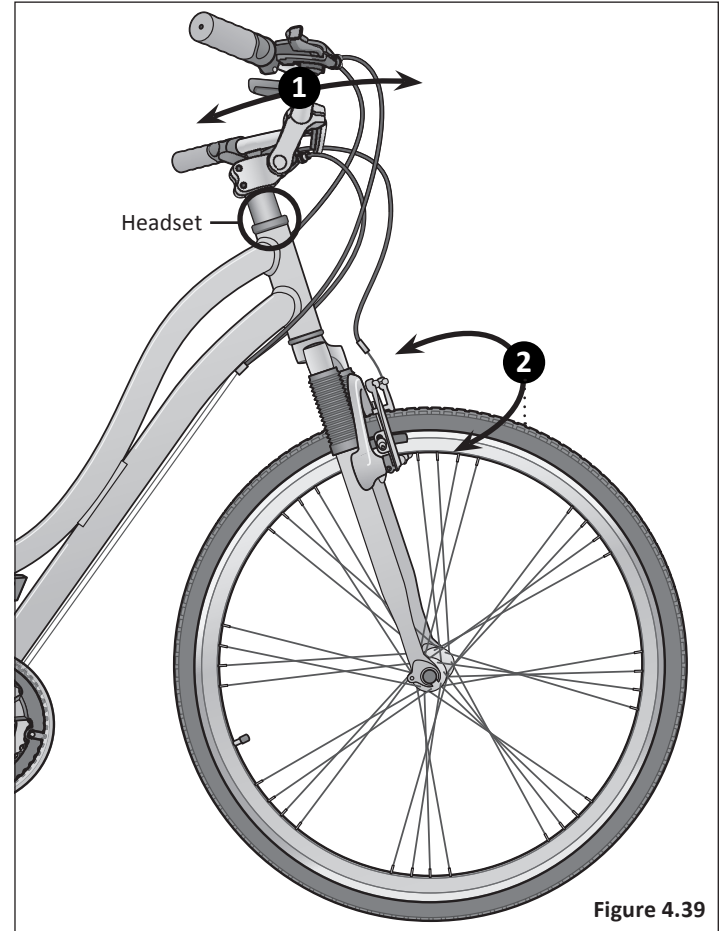

Figure 4.39
- 1 Shakiness:** Apply the front brake and push the handlebars back and forth, front to back. Or if the bicycle is on a workstand and the front wheel removed, push and pull on the forks. If you feel a knocking sensation or "clunk" it means the headset is too loose. **Important!** Use care with suspension forks, because the legs may have play in sliders. Grab upper portion of fork. **Figure 4.39**